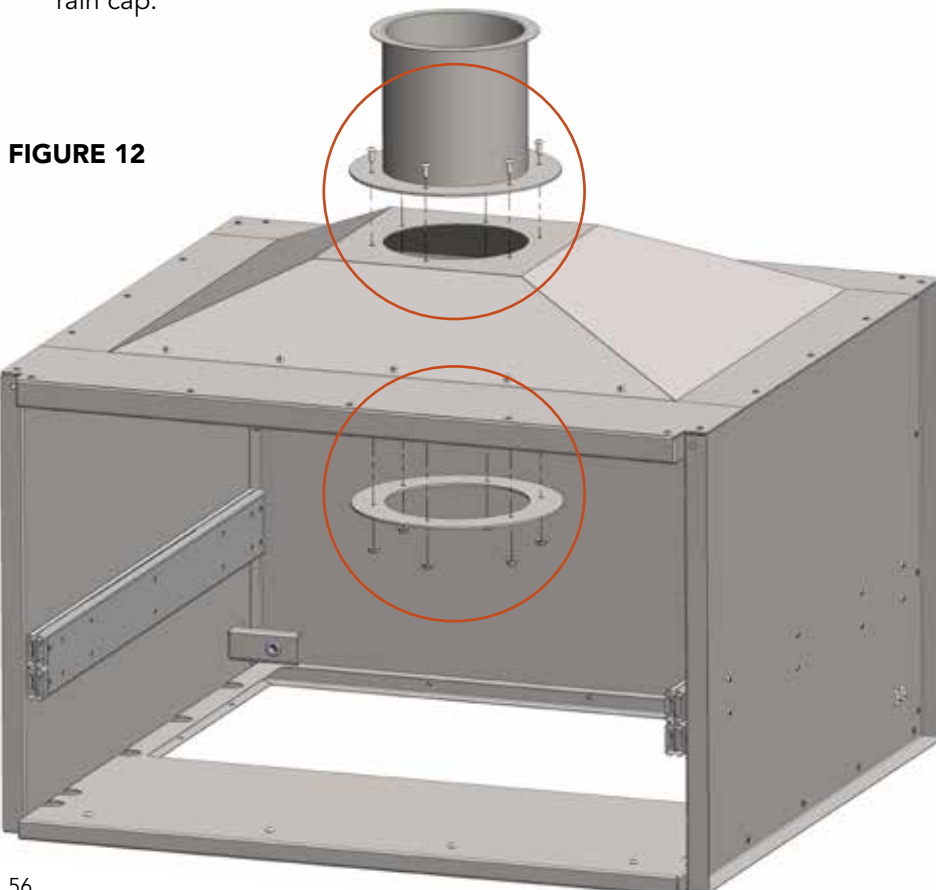

FIGURE 12
The oven liner (see Figure 12) is mounted to a pair of support ledges that run from front-to-rear of the structure. Maximum spacing between the two ledges is 27.5 inches. Minimum spacing is 26.5 inches. This space must be open to access the bottom of the oven. The oven liner must be screwed down onto these ledges for secure installation.
3. Attach the chimney flange and support ring to the oven liner (Figure 12) using 6 sets of 10-24 x 0.375-inch screws, #10 lock washers and 10-24 flange nuts.